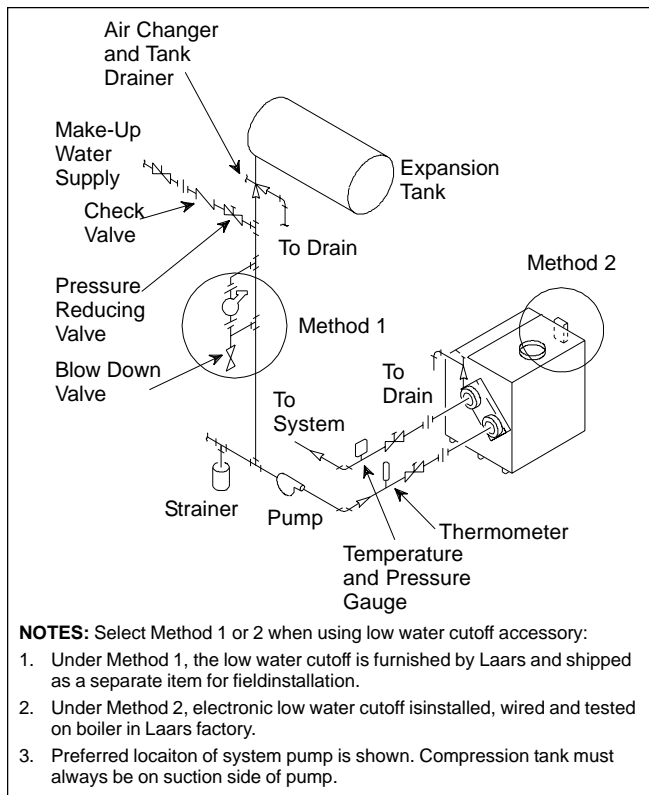

Figure 7. Boiler Piping.
- Provide a boiler installed above radiation level with a low water cutoff device either as part of the boiler or at the time of boiler installation (see Figure 7).